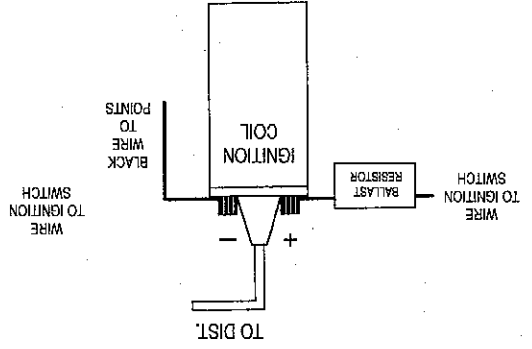

FIGURE 2
5. The red wire from the Ignitor must be connected to the positive (+) side of the coil, or a 12-volt switching power source. (See Figure 2 & 3).
14. For installations that do not use a primary ballast resistor, connect the *Ignitor* red wire to the positive (+) side of the ignition coil. (See Figure 2).